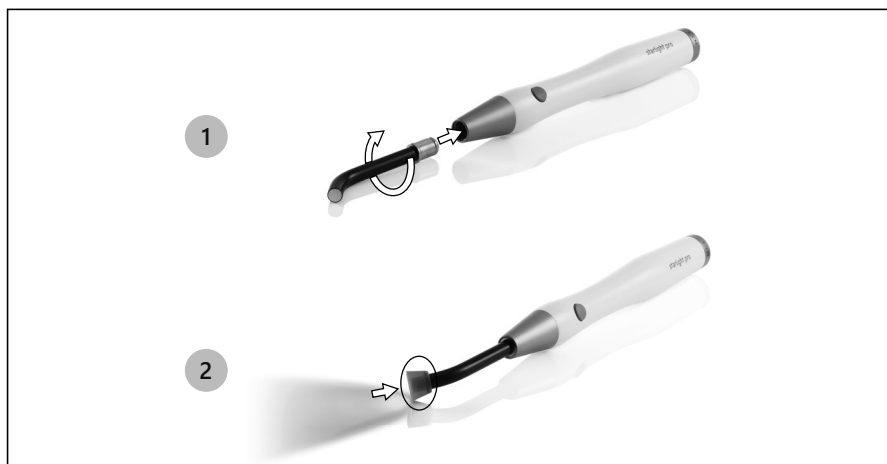

Figure 7 – Connecting the Accessories
1. Manually insert the optic fibre onto the handpiece, applying gentle pressure. If necessary, rotate until it clicks into place (see Figure 7 at page 16);
2. Fit the optical protection onto the optical fibre by hand (see Figure 7 at page 16).